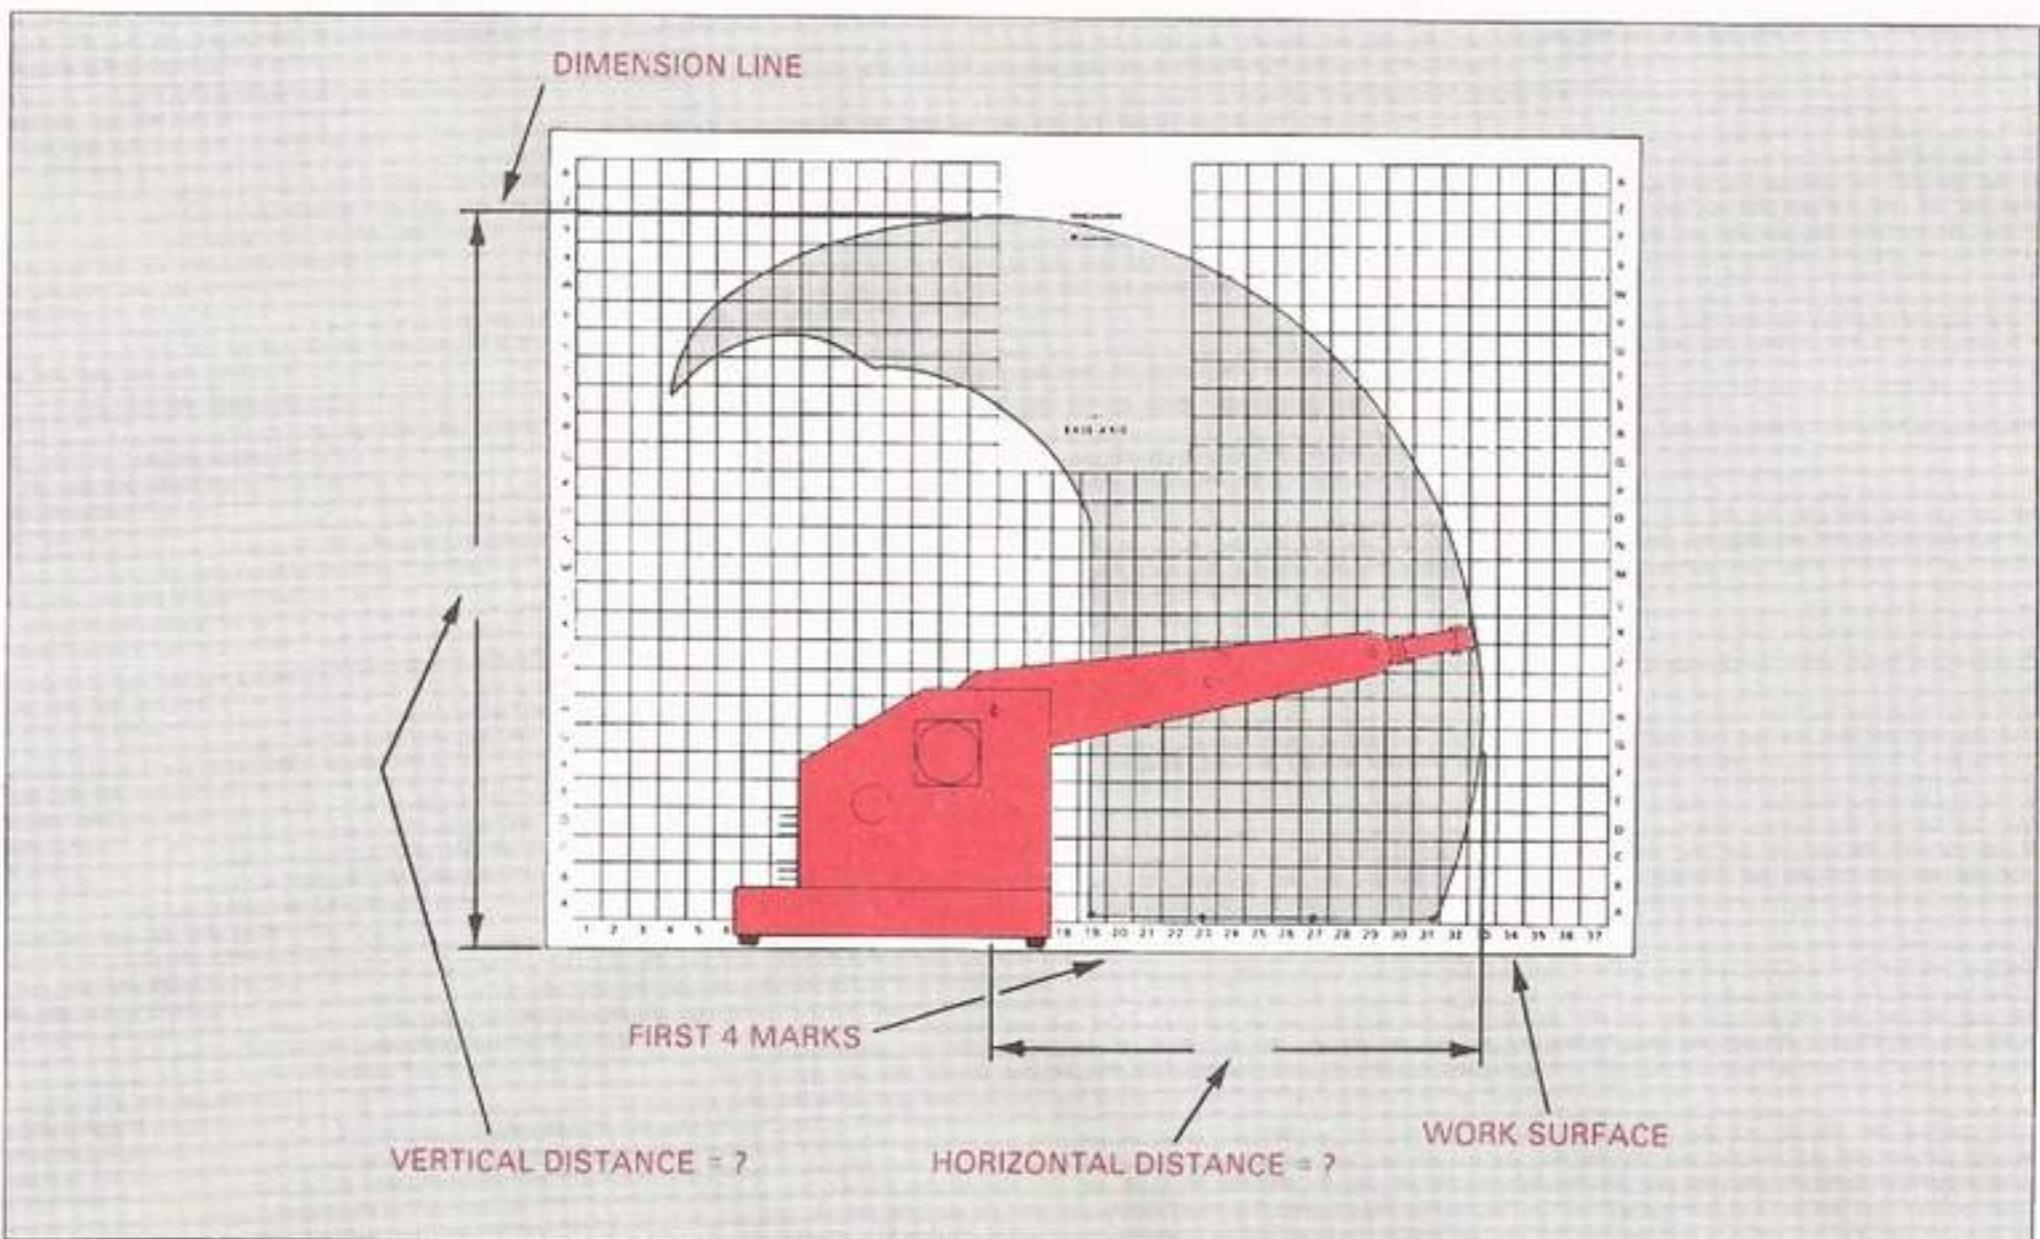

Fig. 81: Vertical Envelope Nomenclature
- m. Lay the grid sheet down and carefully draw a straight horizontal line through the first four marks, as shown in Fig. 81. Then, continue with this line by making a series of smooth, curved lines through the markings, until you reach the last mark.
- n. The last mark you made should be nearly in line with the imaginary front of the body of the Pro-Arm. Draw a vertical line from this mark down to the horizontal line that indicates the top of the work surface. Your completed work envelope should be similar to that shown in Fig. 81.
- p. Measure the horizontal distance, on the Working Space Chart, from the center line of the base axis to the point on the work envelope that is the greatest distance from the base axis, as depicted in Fig. 81. Record this measurement below. *Note: Each line represents a distance of one inch (25 mm).*
- q. Draw a dimension line on the Working Space Chart indicating the horizontal distance, and then add the measurement from Step p. Refer to Fig. 81, again.
- s. Draw a dimension line on the Working Space Chart indicating the vertical distance, and then add the measurement from Step r. Refer to Fig. 81, if necessary.